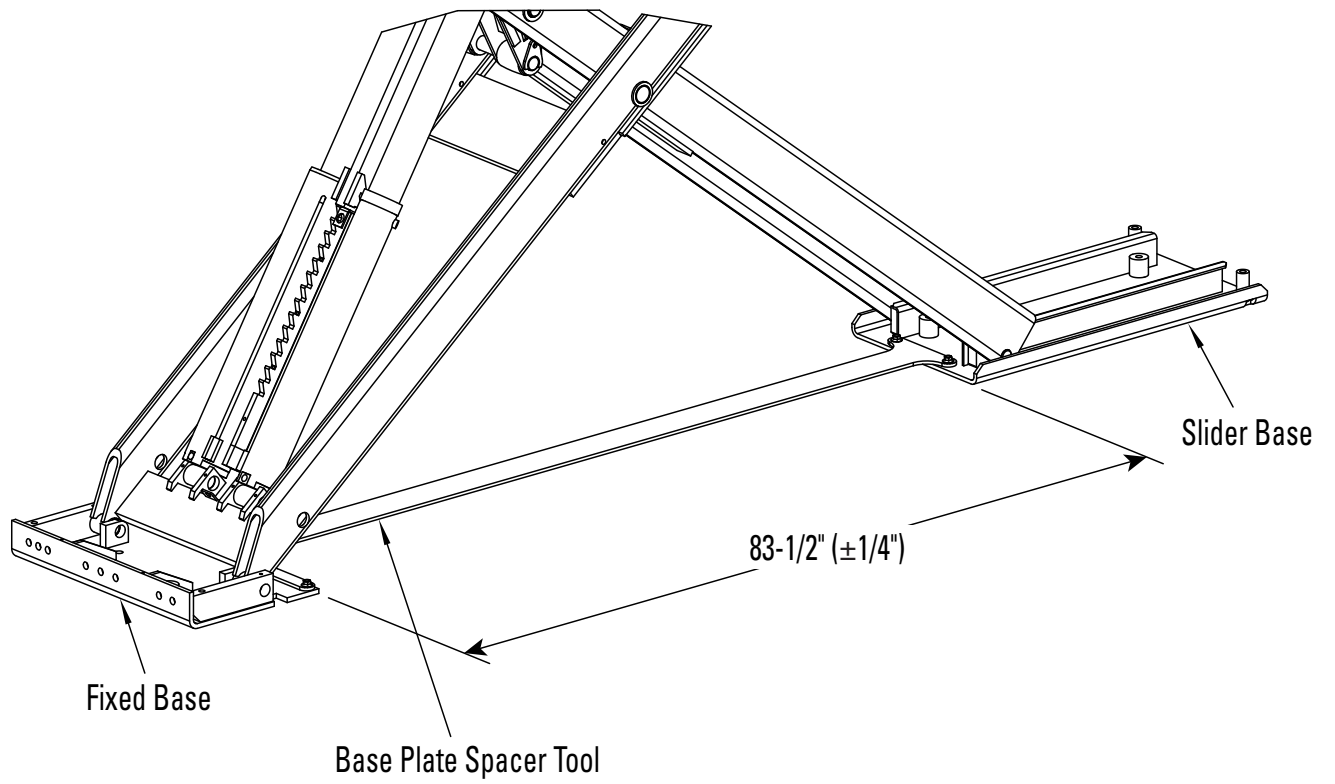

Fig. 3.5.2
- Verify the based plate spacing is 83-1/2" and runways are spaced at 43" before anchoring (Fig. 3.5.2 and 3.3.4).
- Remove the base plate spacer tool that is installed between the fixed and slider bases (Fig. 3.5.2).